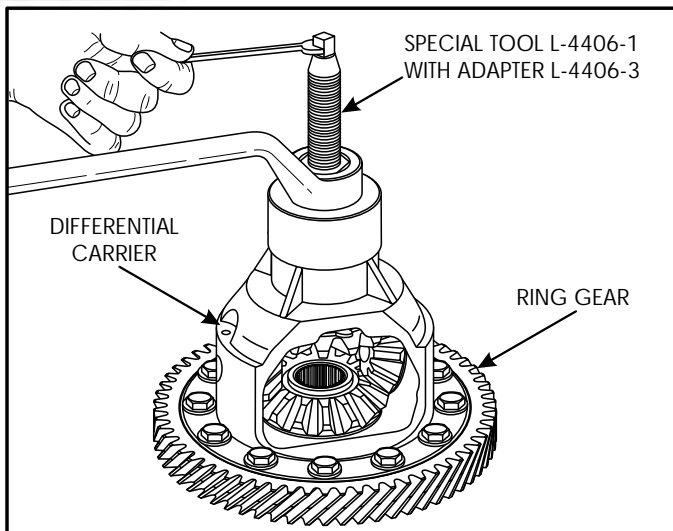

Figure 144
1. Remove the differential carrier bearing cones using the special tools and procedures shown in Figures 144 and 145. The same tools are used for both sides.